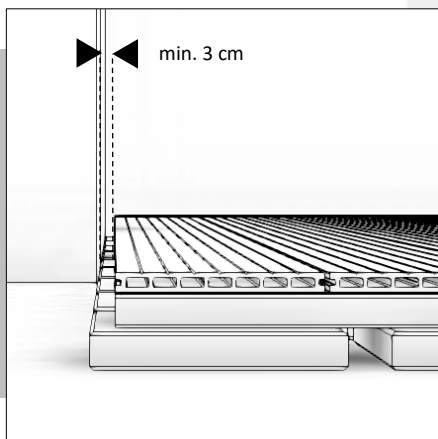

FIG. 4
- Take into account expansion, ventilation and ensure there is sufficient distance (3 cm) between any of the terrace parts and obstacles such as walls, fences, trees etc. (Fig. 4)
- Take into account expansion and ventilation and ensure there is sufficient distance (3 cm) between any part of the terrace and obstacles such as walls, fences, trees, etc. (Fig. 4).